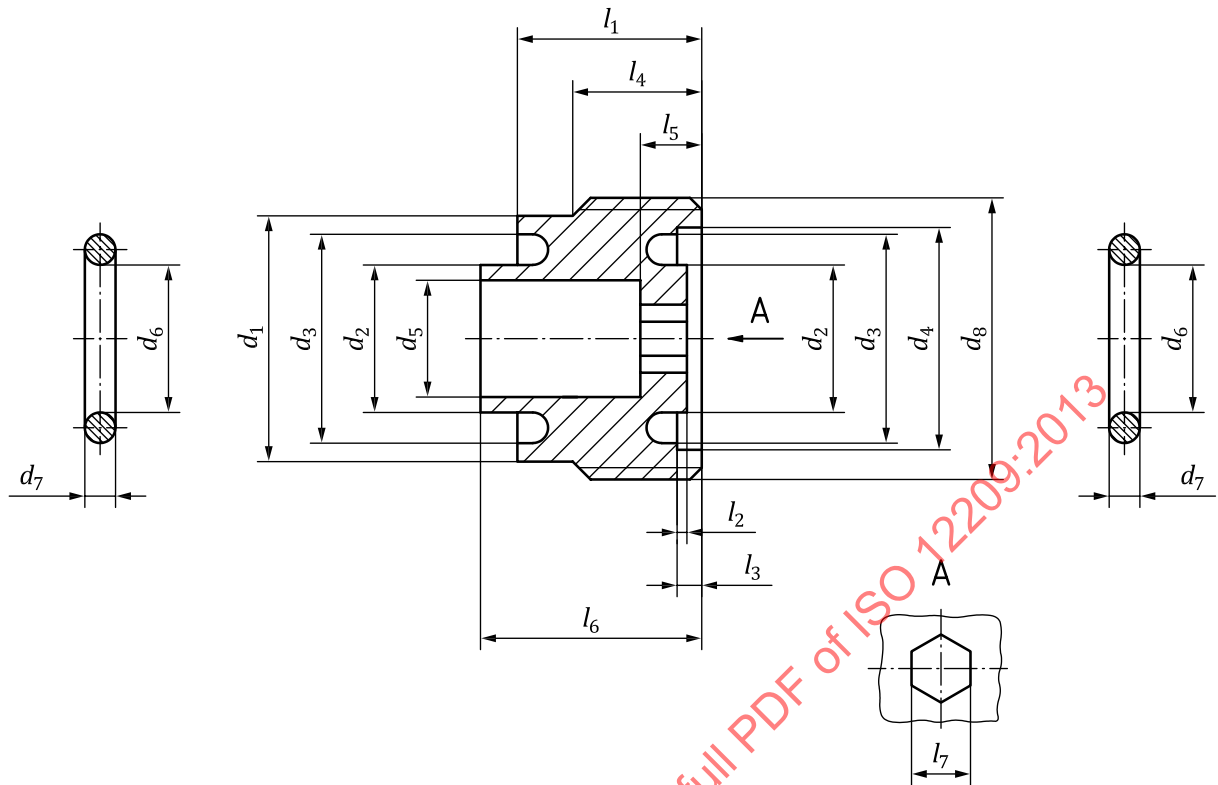

Figure 16 — Adaptor and o-rings to convert from 232 bar threaded to 232 bar yoke type outlet connection
The dimensions of the valve outlet adaptor and o-rings and minimum shore hardness (HS) are given in Figure 16 and Table 11 and 12.
The adaptor in Figure 16 shall be marked with the manufacturer's identification.